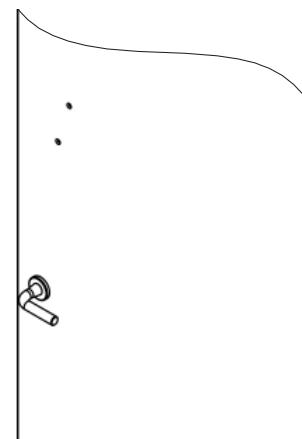

Figure 29
- Countersink holes on the opposite face of the door to fit the supplied oval head screws. (Figure 29)